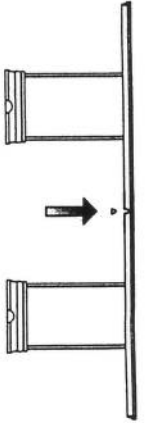

FIGURE 4
4. If you have two or more tables need locate two molding between tables as shown in figure 4.